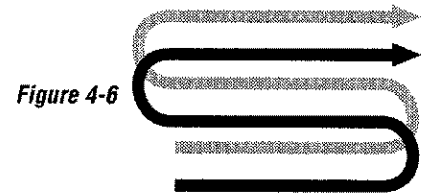

Figure 4-6
- When preparing a seedbed, go over the same path twice in the first row, then overlap one-half the tiller width on the rest of the passes (see Figure 4-6). When finished in one direction, make a second pass at a right angle as shown in Figure 4-7. Overlap each pass for best results (in very hard ground it may take three or four passes to thoroughly pulverize the soil).